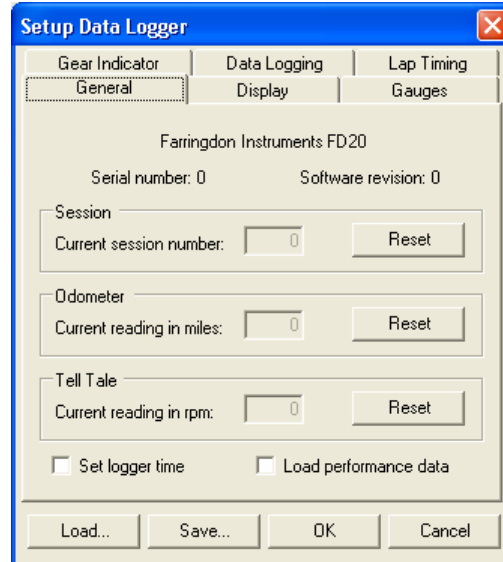

Figure 31 - Setup Data Logger Dialog (General Page)
3. Select the drive for the memory card containing the configuration and click **OK**. The current configuration is displayed in the Setup Data Logger Dialog (Figure 31).
Click the **General** tab to display the General page (Figure 31) of the Setup Data Logger Dialog.